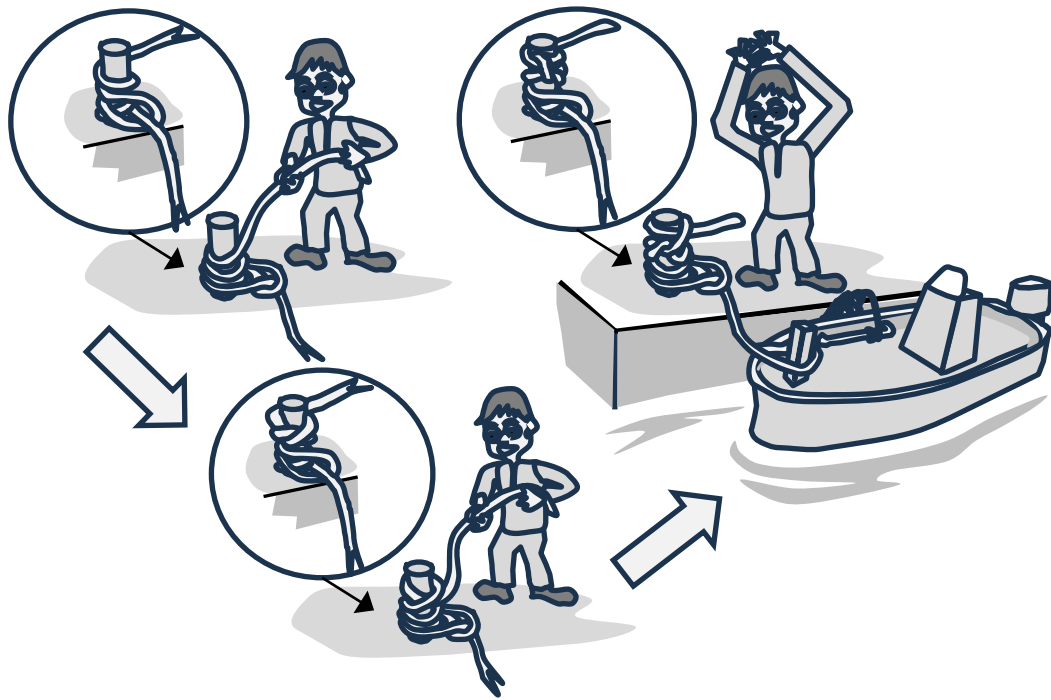

Figure 21: Making clove hitch with folded back rope
After the rope is folded back and wrapped around the bollard additionally one or two turns in (3), secure it to the bollard with clove hitch (Figure 21). When clove hitch is made after the rope is folded back, the rope will not be too tight even if a force is applied to it, making it easier to untie.